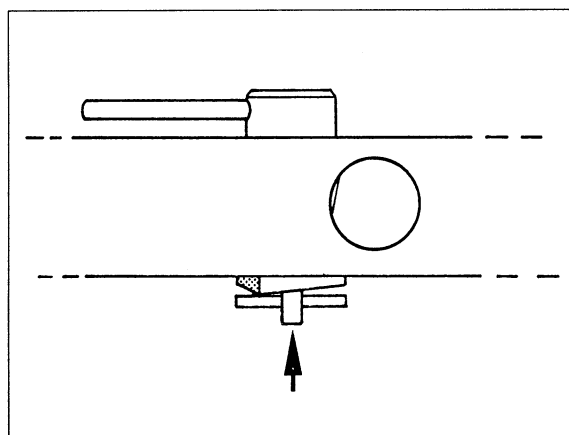

Fig. 2 Toggle on base of stand
► Figs. 2/3. The five other sockets (7) are used for holding or mounting various items of apparatus using 4 mm plug pins.